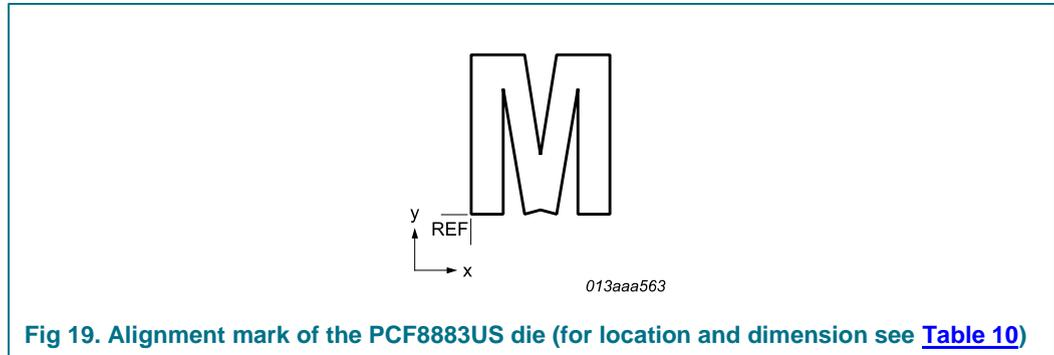

Fig 19. Alignment mark of the PCF8883US die (for location and dimension see Table 10)
- [1] The x/y coordinates of the alignment mark location represent the position of the REF point (see Figure 19) with respect to the center ( $x/y = 0$ ) of the chip.
- [2] The x/y values of the dimensions represent the extensions of the alignment mark in direction of the coordinate axis (see Figure 19).